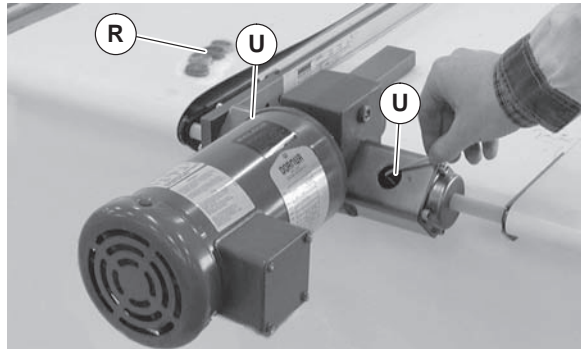

Figure 23
- Tighten coupling hex shaft set screws (Figure 23, item U). Replace inspection plugs (R).